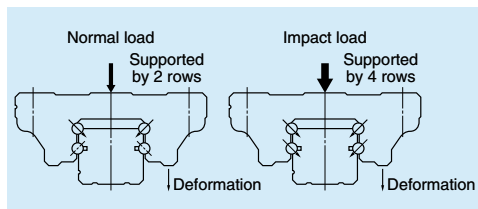

Fig. 5 Shock-resistance
(1) High precision and quality
(2) High reliability and durability
(3) Abundant in type for any purpose
(4) Development of random-matching parts for short delivery time
(5) Patented static load carrying capacity (impact-resistance)
- When a super-high load (impact) is applied, our Gothic arch groove spreads the load to surfaces which usually do not come into contact in the ball type NSK linear guides. This increases impact load resistance (Fig. 5).
(6) Lineup of extremely high-load capacity series